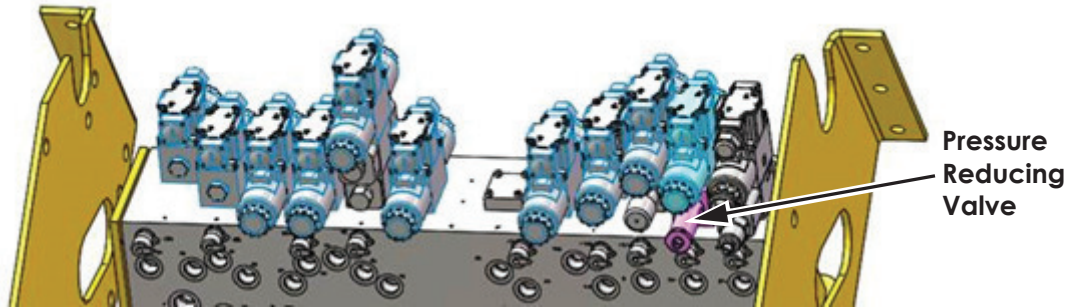

Figure 5: Pressure reducing valve
- Unscrew the fasteners to remove the pressure reducing valve (PRV) as shown in Figure 5. If the check valve is not available then install the BUW valve bank using the socket head fasteners (Carrig P/N: SH-10-24-0200).
**Warning!** Check valve knob must be oriented toward the hydraulic manifold test port as shown in Figure 5.